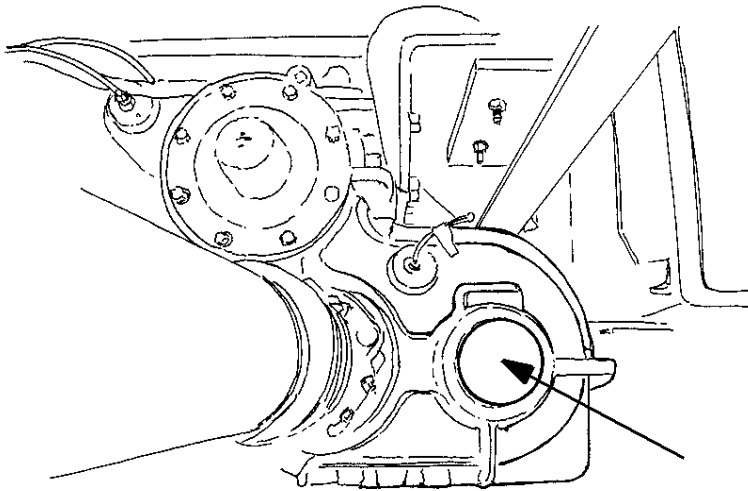

Figure 3 Transfer Case Boss (Arrow)
4. At the rear of the transfer case, locate the boss shown in Figure 3.